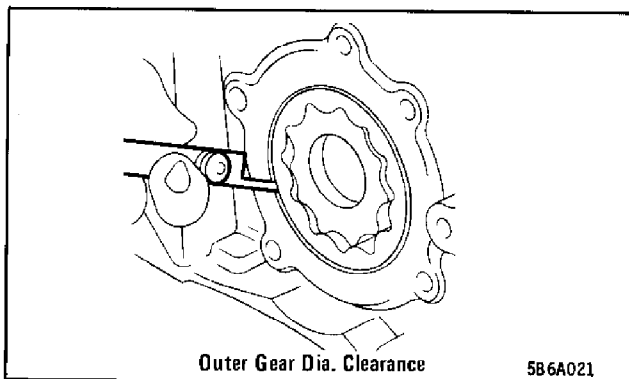

Figure 33 Measuring Outer Gear Diameter Clearance
- outer gear diameter clearance .203 - .381 mm (.008-.015) - see Figure 33